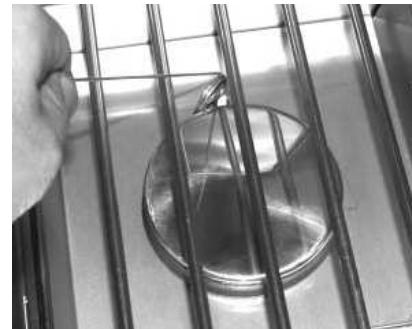

Fig. 21-2 - Manual lighting
2. Insert either a burning long-barrel butane lighter, a burning long-stem match, or a burning match held by a wire extension holder through the cooking grid opening to the burner (Fig. 21-2). Hold the flame against the edge of the burner.
4. If the burner does not light within five (5) seconds of turning the control knob, **immediately depress the knob and turn the valve to OFF**. **WAIT FIVE (5) MINUTES** before repeating steps 2 through 4 of the **MANUAL LIGHTING** instructions.